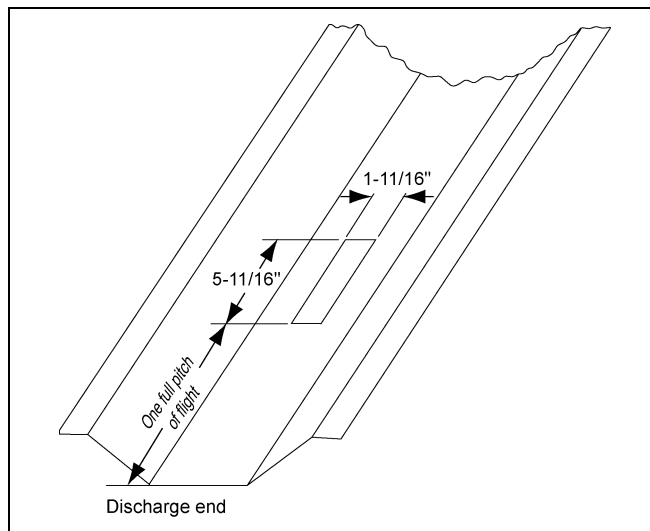

Figure 3G
2. Mark the location for the sensor on the trough, using the template provided to mark a 1-11/16" by 5-11/16" rectangular hole. Cut this rectangle out carefully to make sure that the sensor block fits tight. It is recommended that this hole be cut with a saw, not a torch. (See Figure 3G on Page 14.)